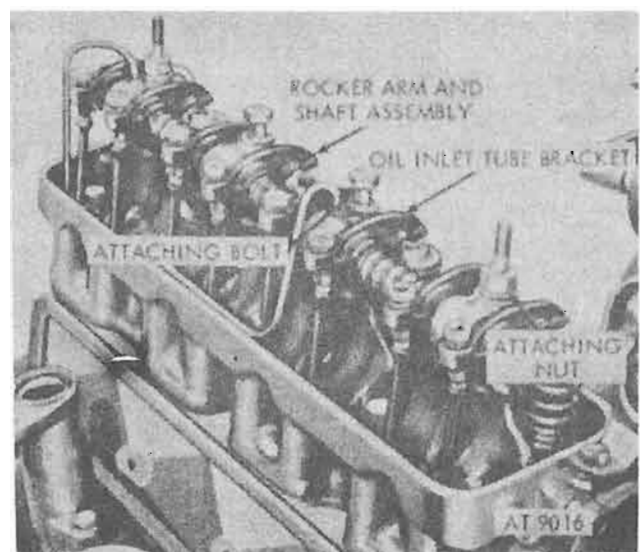

Figure 4-80. Rocker arm and shaft attaching bolts.
b. *Rocker Arm Shaft Assembly Attaching Bolts.* Remove hex-head bolts securing rocker arm shaft assembly to cylinder head (fig. 4-80).
c. *Rocker Arm Shaft Assembly Attaching Parts.* Remove hex-head nut, lockwasher, and flat washer from rocker arm shaft front support stud. Remove hex-head nut, lockwasher, and oil inlet tube bracket from rocker arm rear support stud. Remove inlet and outlet oil tubes (fig. 4-80).